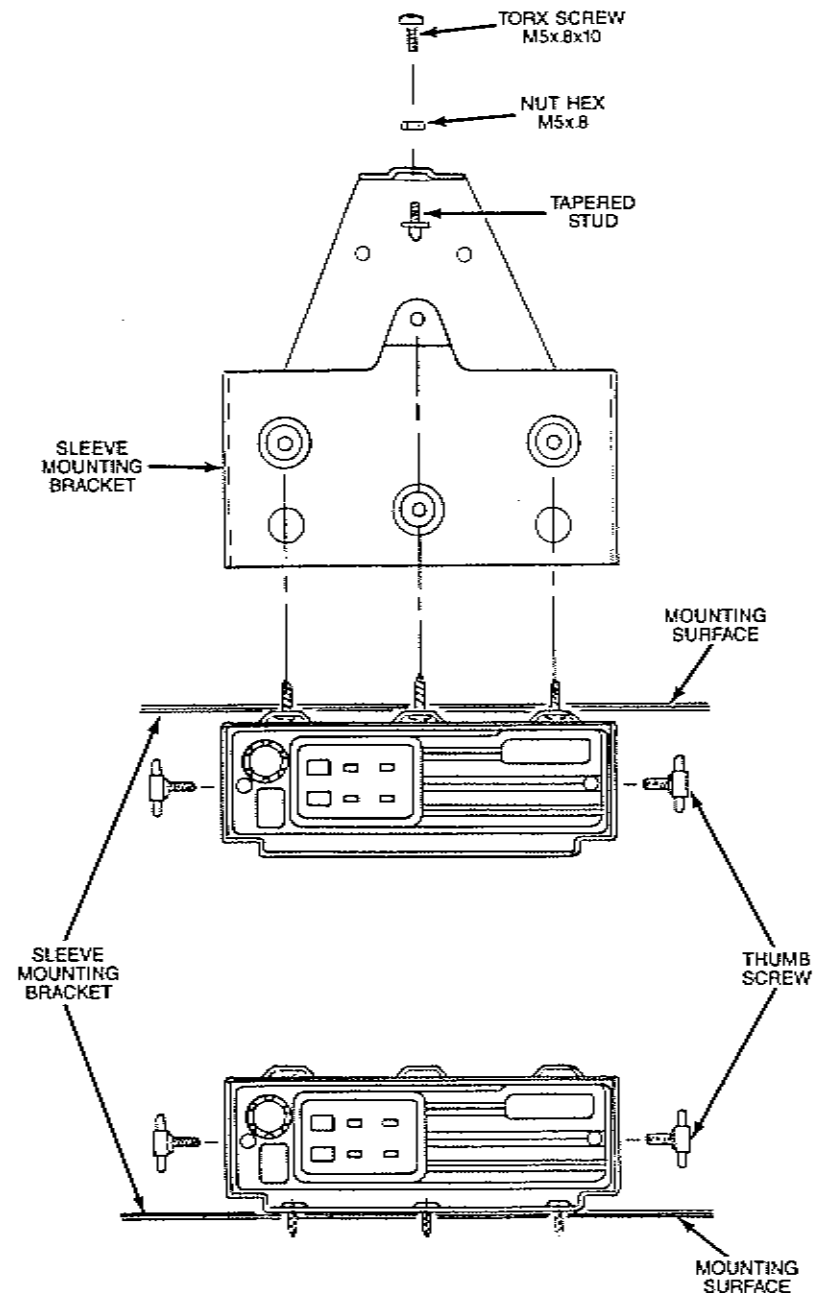

Figure 5. Sleeve Mount for Radio
(See Figure 5)
- (1) Select the location to mount your radio either ON or UNDER DASH (see Figure 5).
- (2) Using the sleeve mounting bracket as a template, mark the positions of the holes on the mounting surface.
- (3) Centerpunch the spots you have marked and drill a 5/32" hole at each.
- (4) Secure the sleeve mounting bracket to the surface with the four (10-16x3/4) screws provided.
- (5) If there is sufficient room in the rear of the bracket to install the M5.0x10mm screw proceed with step (7).
- (6) Install the tapered stud and nut in the rear hole of the sleeve mounting bracket as shown in Figure 5.
- (7) Insert the radio into the sleeve mounting bracket guiding the tapered pin into the hole in the rear of the heatsink, and secure it with the two thumb screws provided. If you have skipped step 6 above, install the M5x0.8x10mm Torx screw in the rear of the bracket to secure the radio.
- (8) To complete your radio installation, plug the power cable into the radio power connector. Mount the antenna using the instructions provided with the antenna kit. Run the coaxial cable to the radio mounting location. If necessary, cut off the access cable and install the cable connector.
- (9) Connect the antenna cable connector to the radio antenna connector on the rear of the radio.
- (10) Mount the microphone clip. Follow instructions provided with the microphone clip.
- (11) Plug the Microphone into the front panel connector. Your microphone has a telephone type connector at the end of its cord. Connect and disconnect your Radio Microphone in the same manner you connect and disconnect a telephone handset.